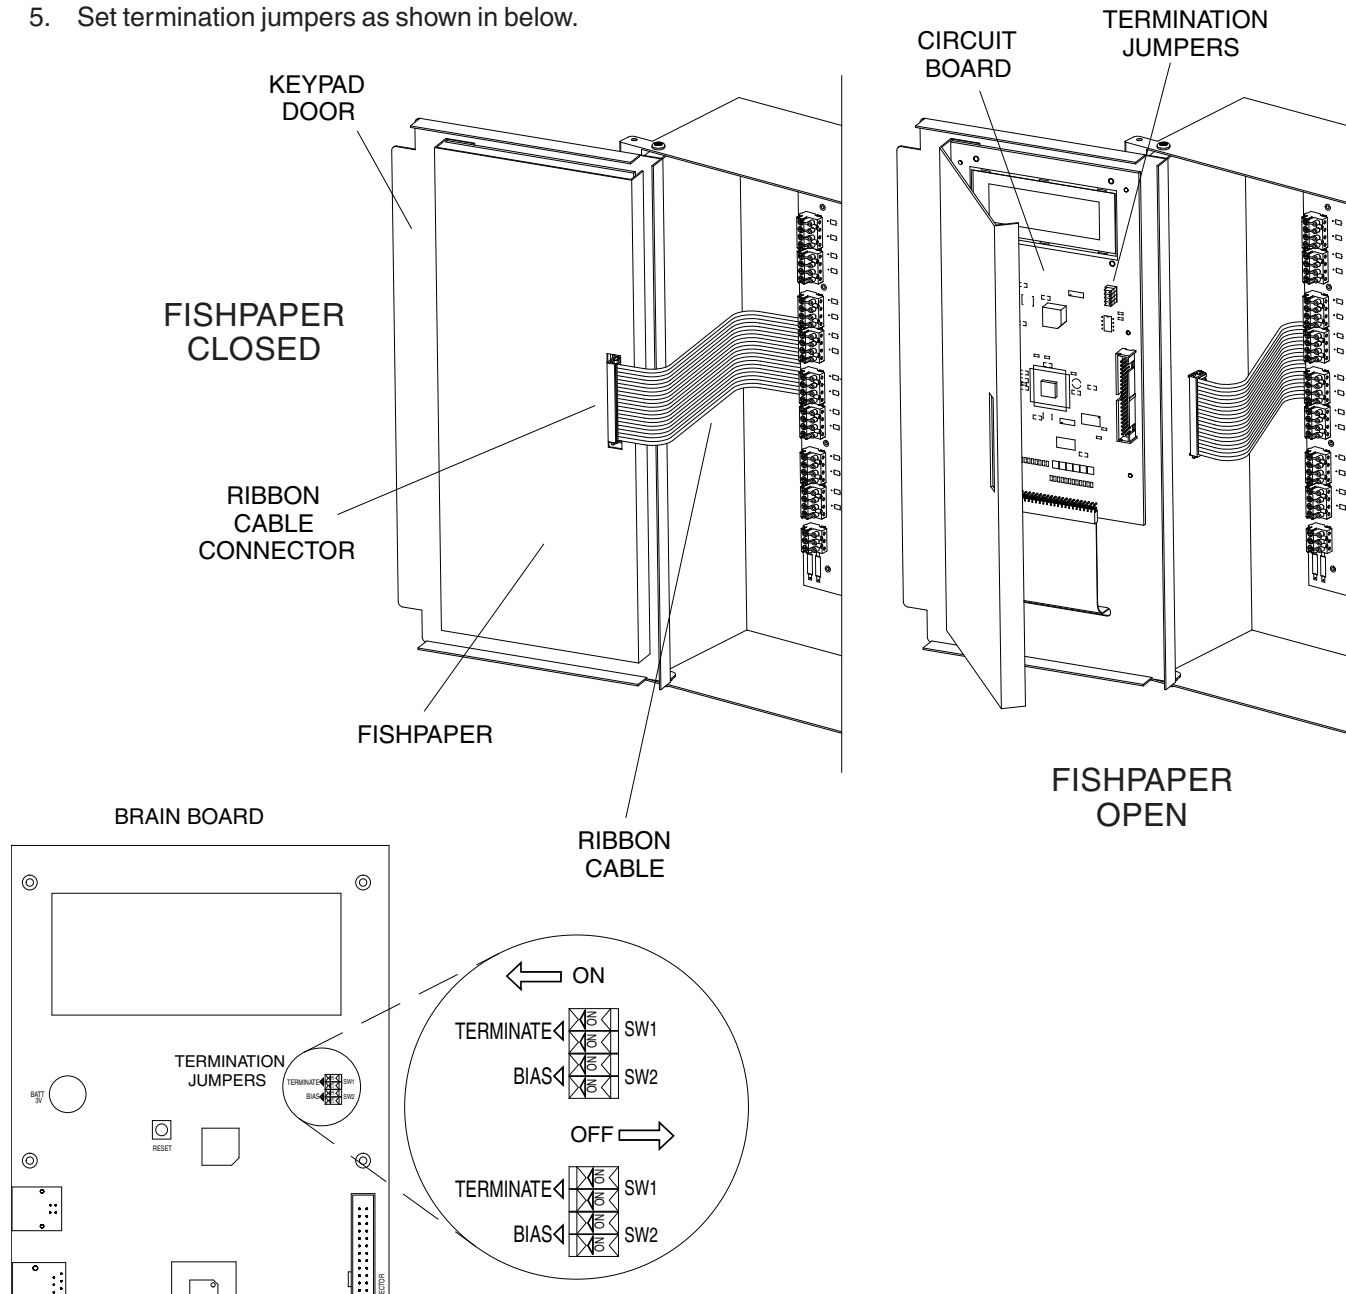

Figure 9 - MSTP NETWORK TERMINATION JUMPERS
- See Figure 9 for termination details.